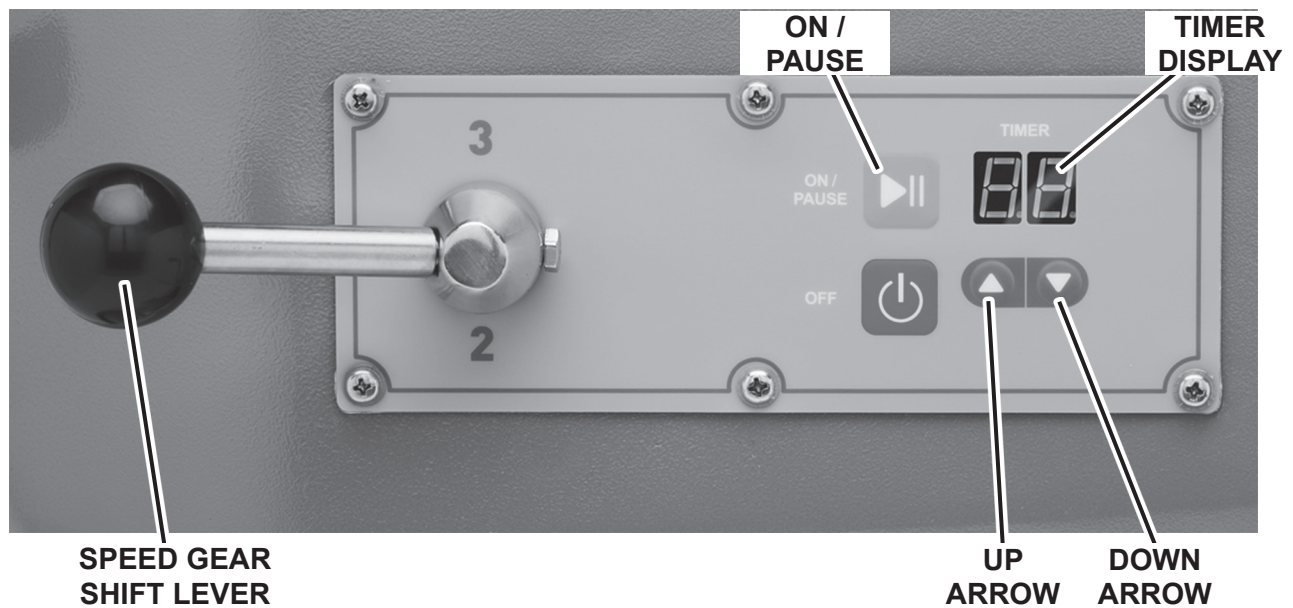

Fig. 7
1. Turn the speed gear shift lever (Fig. 7) to select a mix speed. The timer display reads 00.
2. Press the UP/DOWN arrows (Fig. 7) until the timer display reads the desired mixing time. This is the set time.
3. Press the ON/PAUSE button (Fig. 7) to begin mixing; the timer starts counting down from the set time.